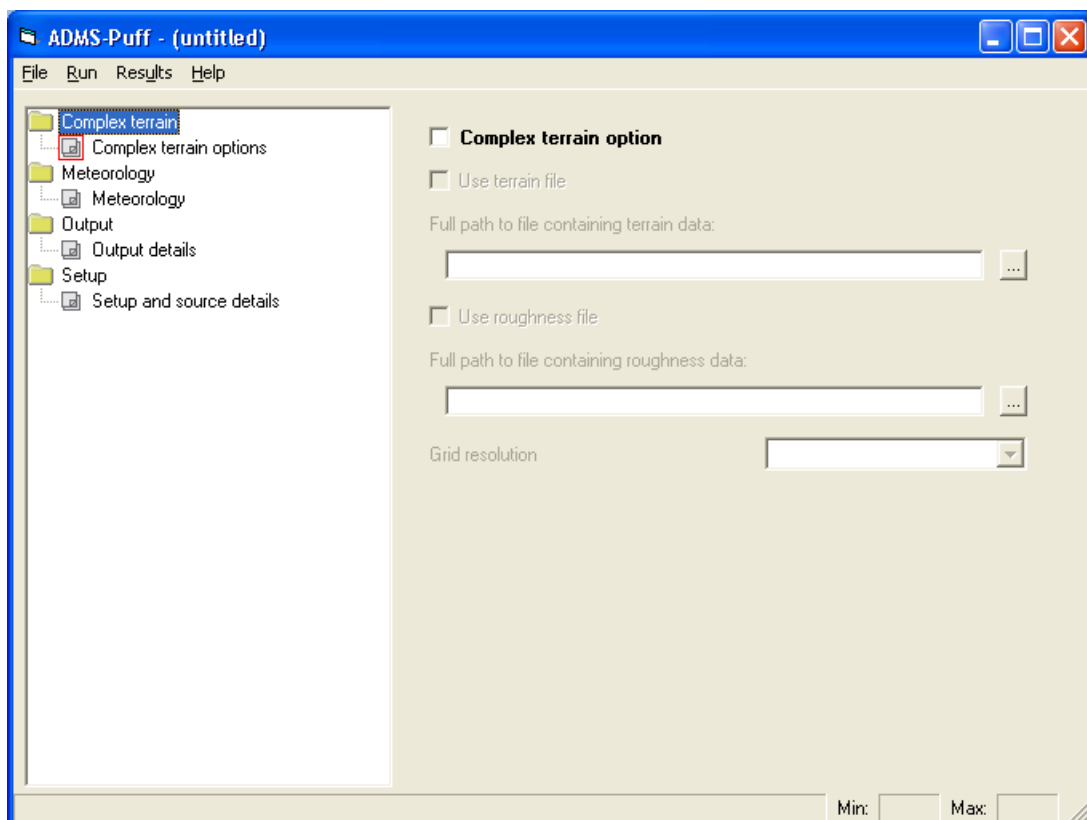

Figure 6: The initial screen after starting ADMS-Puff.
1. To start ADMS-Puff, double click on the AdmsPuff.exe file in your install directory. The initial screen is as shown in Figure 6.